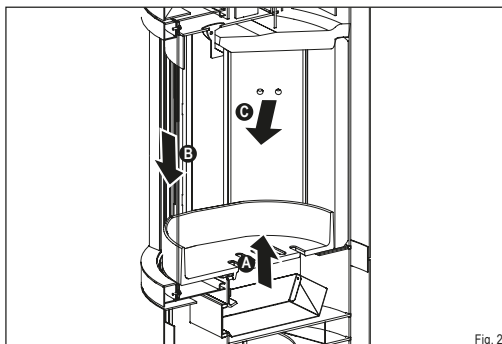

Fig. 2
- The catalytic combustors iQ+ (Fig. 2, No. 5) not only minimise carbon monoxide, but also fine particles and hydrocarbons.